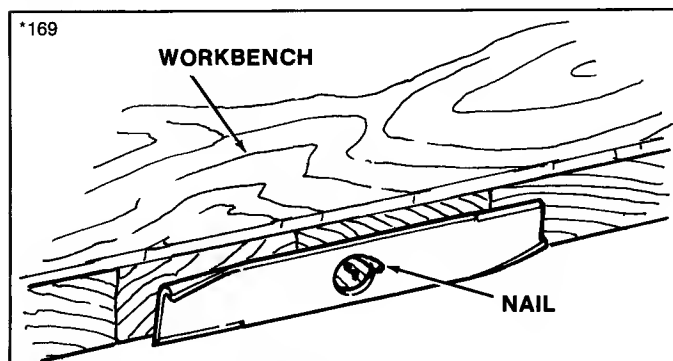

Figure 21. Balancing Blade
5. Check and balance blade. Use a balancing machine or the fixture shown in figure 21. Center the blade on a nail lubricated with a drop of oil. A balanced blade will remain level. File material off heavier end of blade until it is balanced.